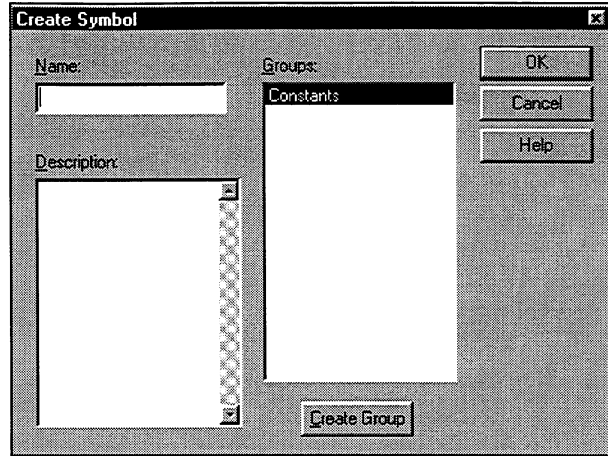

Figure 8-8. Create Symbol Dialog Box for Constants
3. Select the Create Symbol command on the Symbol menu or click the Create Symbol button. The Create Symbol menu opens, as shown in Figure 8-8.